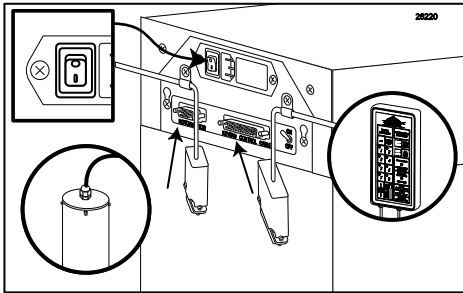

Figure 149
1. Ensure the power-switch is in the “off” position. Connect the Rotor Cable and the Keypad Cable to the appropriate fitments on the Electronics Board located at the back of the cabinet. (See Figure 149.)